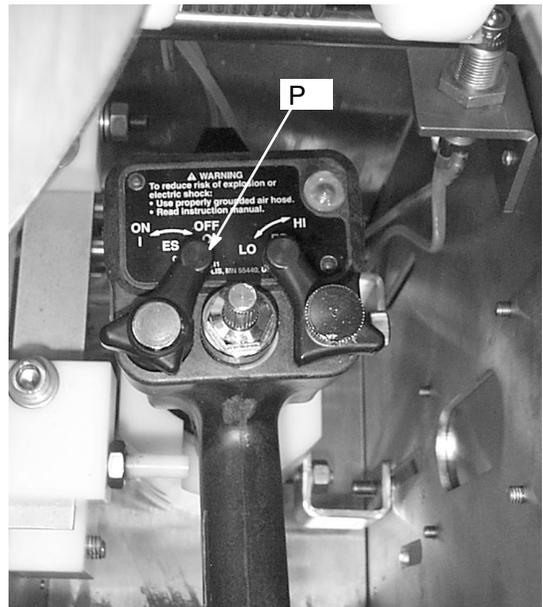

Fig. 19
- ___ 2. If using electrostatics, all operators are properly trained to safely operate an electrostatic spray system. Operators must always turn off the electrostatics (P) before placing the spray gun in the Gun Flush Box. See Fig. 19.